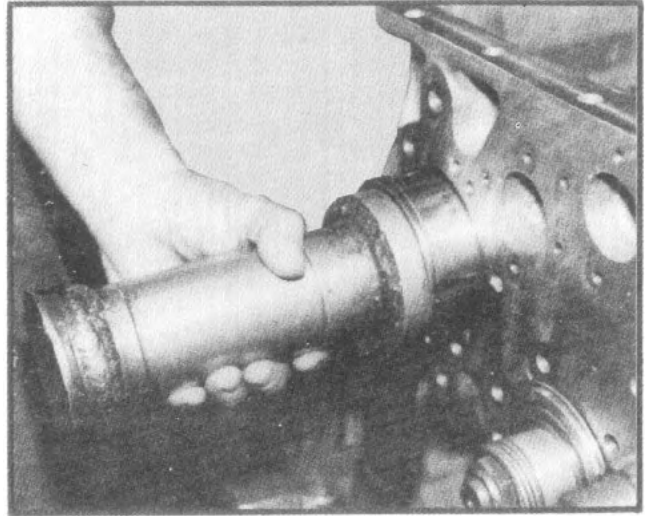

Fig. 27
5. Tap input shaft bearing over the front of shaft and into housing with a suitable driver (See fig. 27).